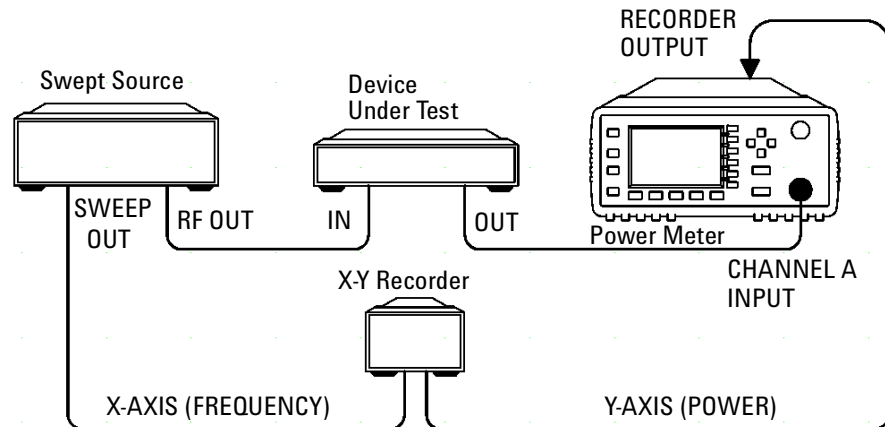

Figure 2-20 Test Setup for Recording Swept Measurements
- monitor the output power on a strip chart recorder. A setup for recording swept measurements is shown in Figure 2-20.